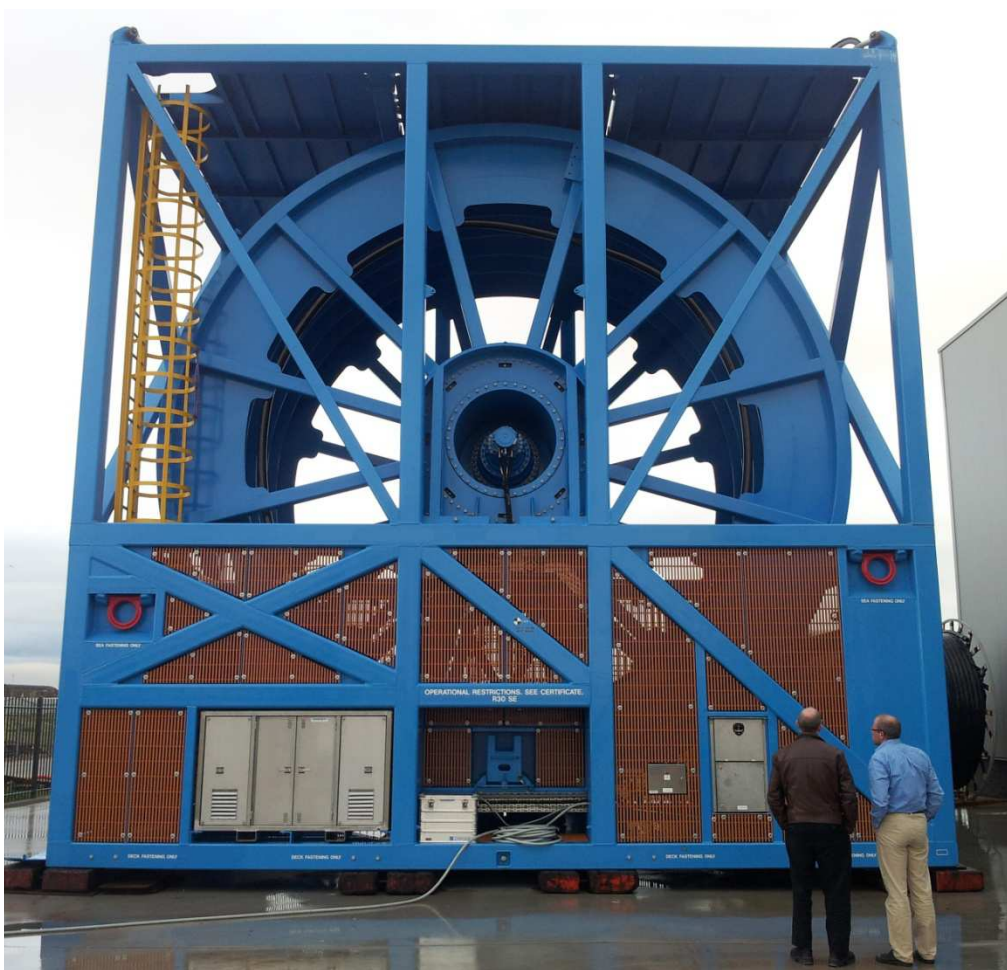

Figure 1 Example of a reeling unit.
1. All sides of fully enclosed frame shall have covers/grating up to at least 3.5 meters from the bottom (see Figure 1).
10. An integrated ladder to the roof shall be applied in the frame (see Figure 1 and Figure 4). Anti-skid shall be applied on the ladder (steps).